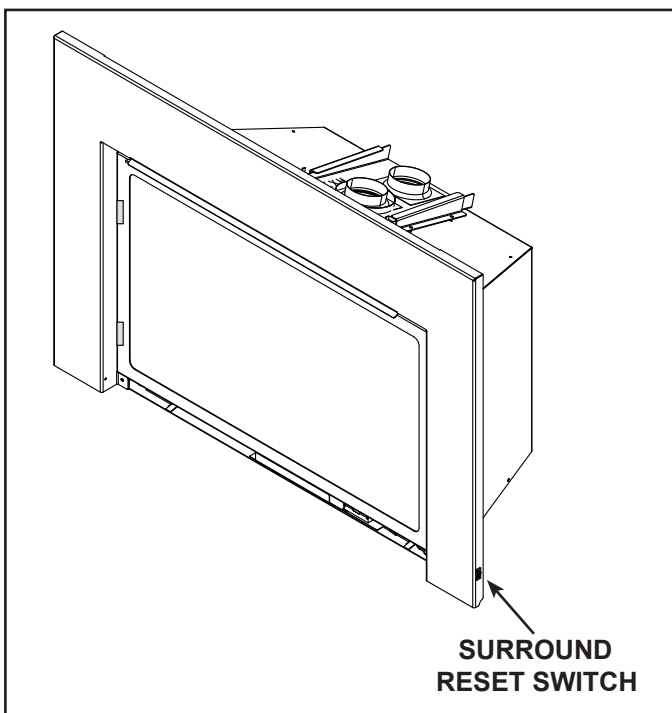

Figure 3.9 Surround Reset Switch
2. Toggle surround manual reset switch position to "OFF". See Figure 3.9. Check to make sure the ignition module switch is **NOT** in the "ON" position.
- Toggle surround manual reset switch position to "ON". See Figure 3.9. Check to make sure ignition module switch is in the "REMOTE" position.
- Toggle surround manual reset switch position to "ON". See Figure 3.9.
- Slide the ON/REMOTE/OFF switch to the ON position. See Figure 3.9.
- Toggle surround manual reset switch position to "OFF". See Figure 3.9.
- Toggle the appliance reset switch to the off position . See Figure 3.9 for reset switch location.
- Wait five (5) minutes to allow possible accumulated gas to clear.